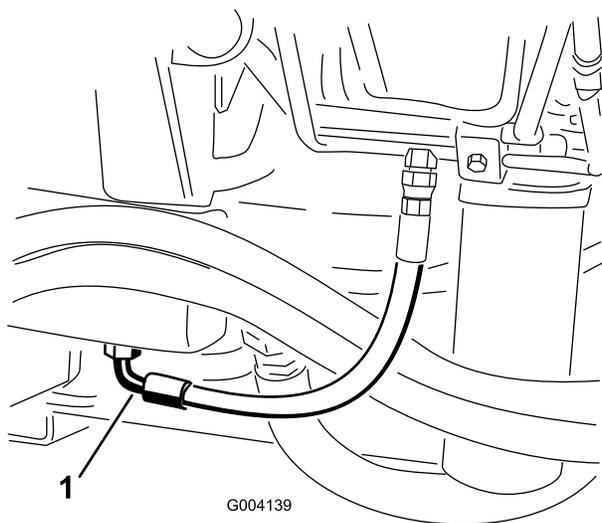

Figure 49
2. Place a large drain pan under the fitting secured to the bottom of the hydraulic fluid reservoir (Figure 49).